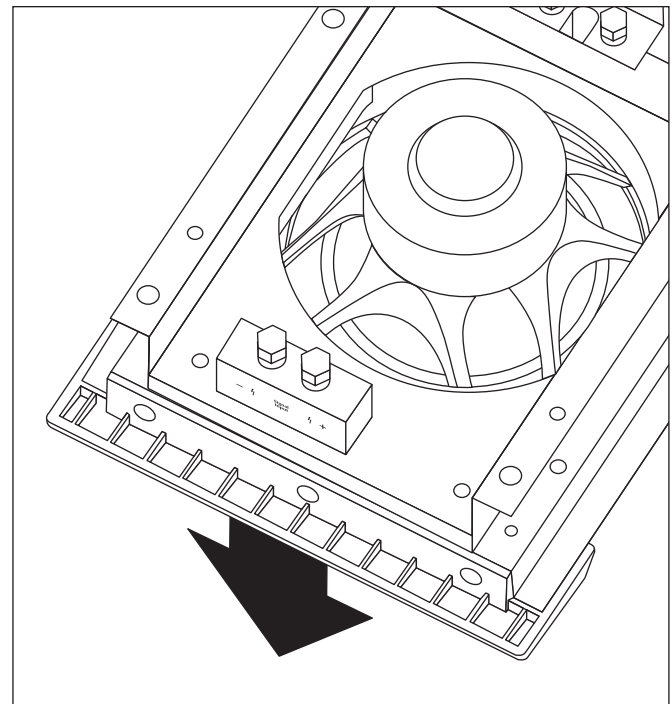

Figure 16. Removing the end caps step 4.
- 4 The end cap may now be safely removed (see figure 16).